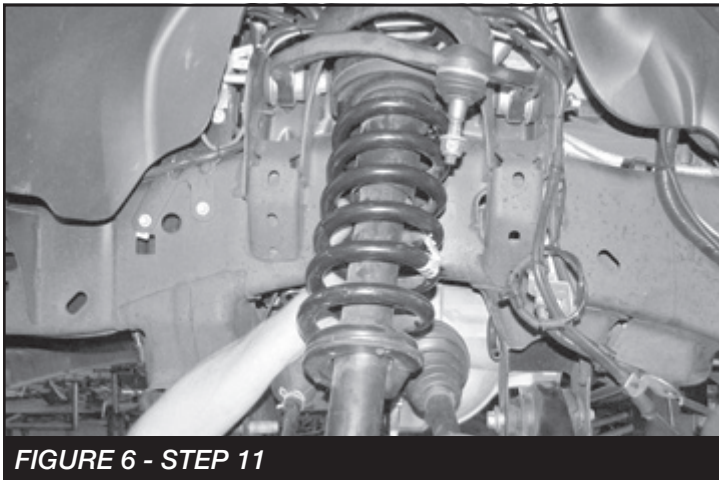

FIGURE 6 - STEP 11
11. Locate the lower shock mount bolt and remove. Save the hardware. Locate the three upper nuts and remove. Save the hardware. Remove the shock assembly from the vehicle and mark "Driver" for assembly to install later with Fabtech shock extensions. **SEE FIGURE 6**